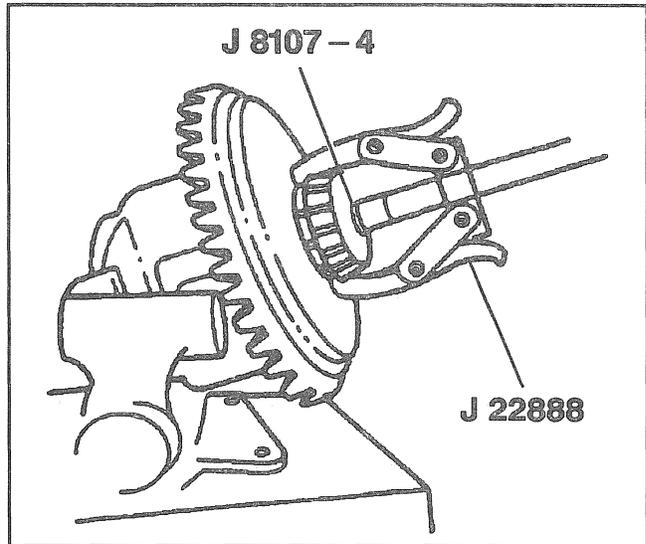

Figure 4—Removing Differential Side Bearing
13. Differential side bearings (8) using J 8107-4 and J 22888-20 (Figure 4).